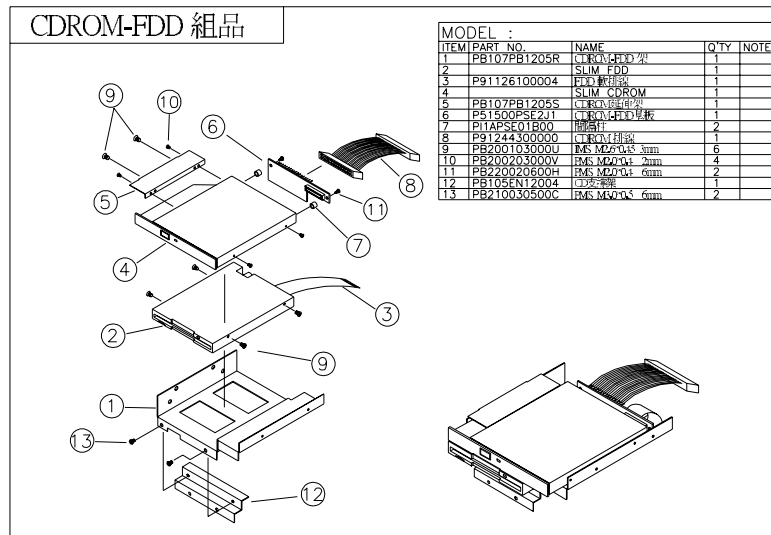

FIGURE 5-10: FDD/CD-ROM INSTALLATION
5. Refer to figure 5-10. If a floppy drive is to be installed, too, fix the FDD (2) with cable (3) to the FDD/CD-ROM metal bracket (1) first.
6. Attach the FDD/CD-ROM board (6) to the slim CD-ROM drive (4). *PLEASE NOTE THAT THE 2 SCREWS NEED TO BE INCASED WITH 2 PLASTIC WASHERS (7).*
7. Fix the small CD-ROM bracket (5) to the CD-ROM drive. This small bracket is to prevent the CD-ROM unit from moving when installed to the FDD/CD-ROM (1).
10. Connect the 44 pin-IDE cable (8) to the 44 pin IDE connector on the FDD/CD-ROM board. Make sure the other end of the cable is connector the motherboard primary IDE connector.
11. Connect the 44-pin IDE cable (8) to the 44-pin IDE connector on the FDD/CD-ROM board. Make sure the other end of the cable is connector the motherboard primary IDE connector.